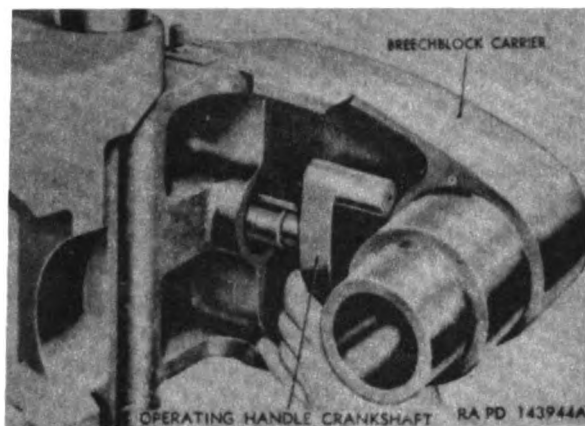

**Figure 114.** Removing or installing operating handle retaining shoulder bolt.
**e. Remove Breechblock Operating Handle.** Remove the operating handle retaining shoulder bolt (fig. 114), which holds the breechblock operating handle to the crank-
shaft journal. Withdraw the handle from the crankshaft journal. Unscrew and remove the crankshaft journal detent (figs. 114 and 115).
*e. Install Breechblock Operating Handle.* Screw the crankshaft journal detent (figs. 114 and 115) into the carrier to secure the journal. Insert the operating handle into the journal, handle upward, and secure the handle in place with the operating handle retaining shoulder bolt. Place the crosshead on its pivot on the arm of the crankshaft (fig. 113).